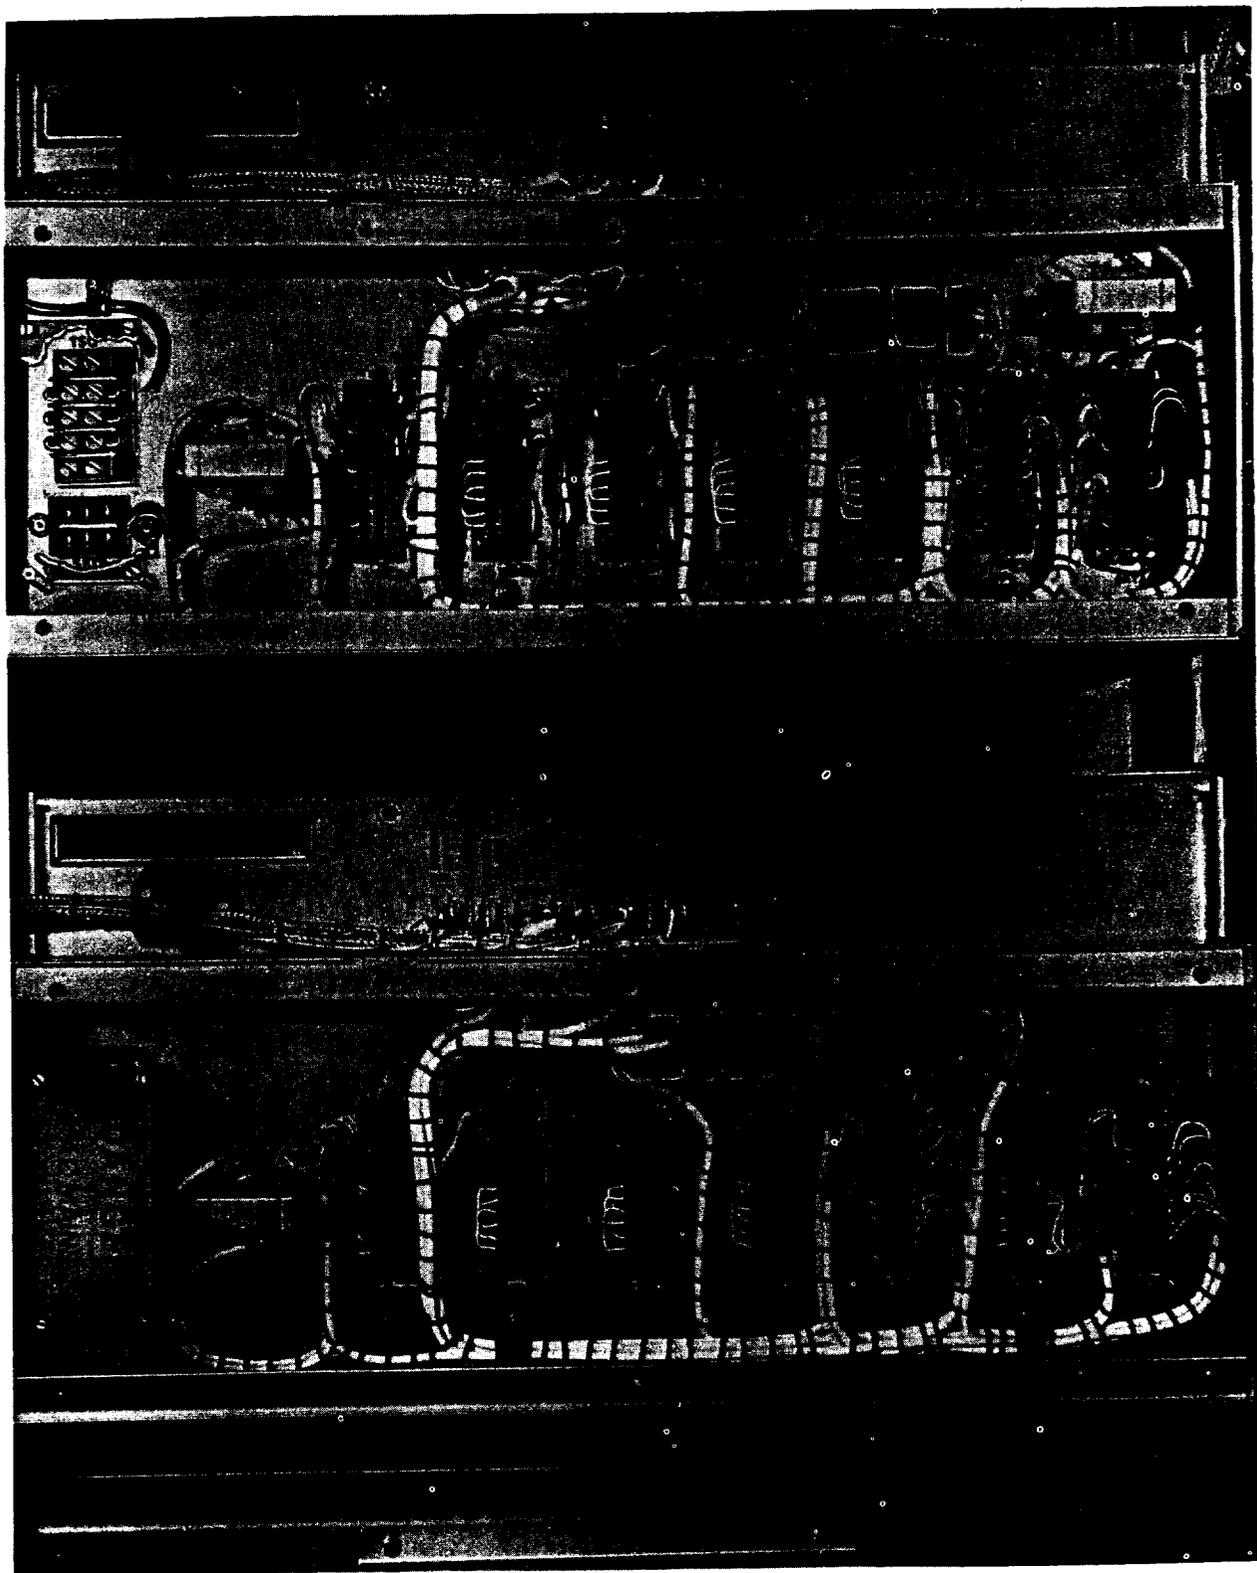

Fig. 3—Main Power Cable Connection
2.03 Remove the larger of the two rear cover plates by unscrewing the six retaining screws. Thread the main supply cable through the rubber grommet fitted in the left side plate of the case, leaving an adequate length to route the cable to the terminal strip TSC (Fig. 3). Remove the warning plate from the terminal strip and connect LIVE (hot), NEUTRAL, and EARTH (ground) leads of the power cable to the terminals marked L, N, and E of TSC. Clamp the cable securely to the chassis using the cable clamp.
2.13 *Transmit Unit:* Strap input attenuator AT1, mounted on the rear panel (Fig. 3), to give a test level of -16 dBm after the attenuator. Factory setting of AT1 is 0 dB. The composite level before the output attenuator AT2 is approximately $+9.5$ dBm. Strap AT2, mounted on the rear panel, to give the required level after the attenuator. Factory setting of AT2 is 18 dB.